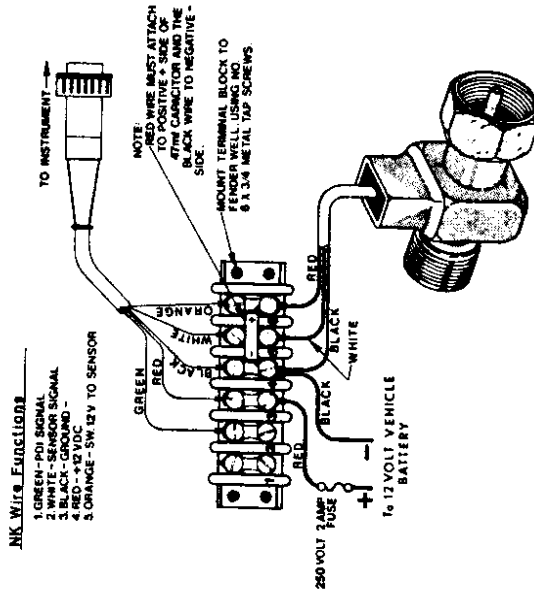

FIGURE 1
2. Route the sensor wire to the NK terminal block making sure the wire is not near the exhaust pipe or manifold. Attach leads to terminal block as shown in Figure 1.
If Adaptor Kit is required (Ford and Chrysler vehicles) follow instructions as supplied in the Adaptor Kit, terminate wires as shown in Figure 1.